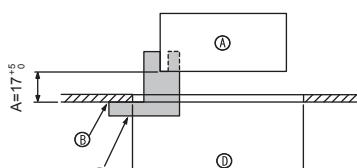
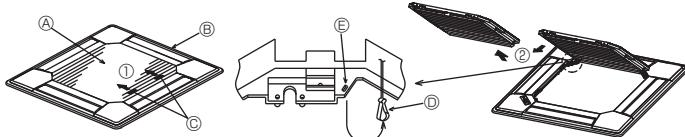
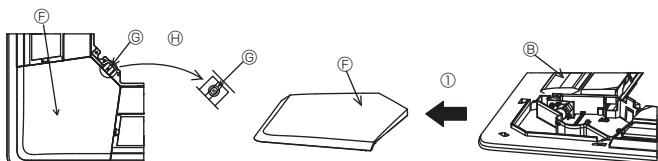

Fig. 6-2
Fig. 6-3
Fig. 6-4
① Grille	1	950 × 950 (mm)
② Screw with captive washer	4	M5 × 0.8 × 25
③ Gauge	1	(Divided into four parts)
④ Fastener	3
⑤ Screw	4	4 × 8
⑥ Screw	1	4 × 12
⑦ i-see sensor corner panel	1	for PLP-6BAE
6.2. Preparing to attach the grille (Fig. 6-2)
- With the gauge ③ supplied with this kit, adjust and check the positioning of the unit relative to the ceiling. If the unit is not properly positioned relative to the ceiling, it may allow air leaks or cause condensation to collect.
① Main unit
② Ceiling
③ Gauge ③ (inserted into the unit)
④ Ceiling opening dimensions
6.2.1. Removing the intake grille (Fig. 6-3)
- Slide the levers in the direction indicated by the arrow ① to open the intake grille.
- With the intake grille in the "open" position, remove the hinge of the intake grille from the grille as indicated by the arrow ②.
6.2.2. Removing the corner panel (Fig. 6-4)
- Remove the screw from the corner of the corner panel. Slide the corner panel as indicated by the arrow ① to remove the corner panel.
[Fig. 6-3, 6-4]